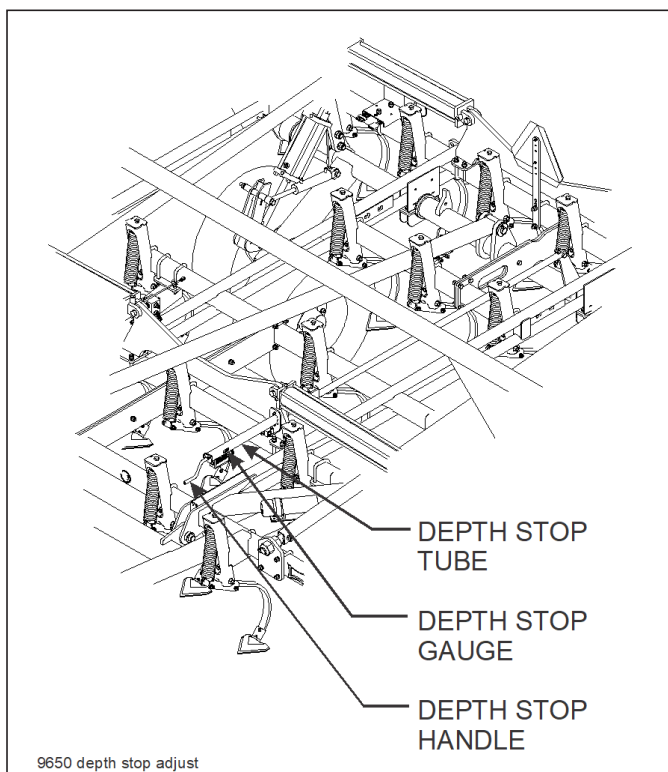

Figure 4-8: Depth Stop Adjustment
1. The operating depth of the Field Cultivator is controlled by a single-point depth stop. The stop is located at the center front of the machine See Figure 4-8.